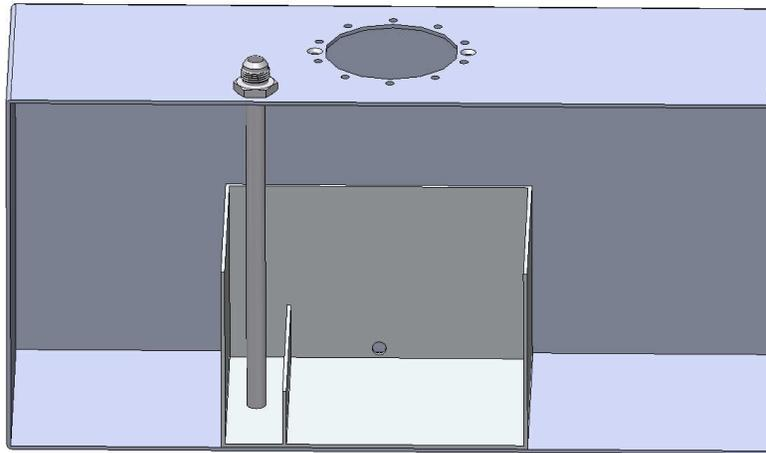

FIGURE 1-4
6. Typical position for the baffle box is below the fuel pump cut out. Although they can be mounted apart. For this illustration we will use the most common. Position the baffle box below the fuel pump cut out and secure it to the floor of the tank. When finished it will look like **figure 1-4**.